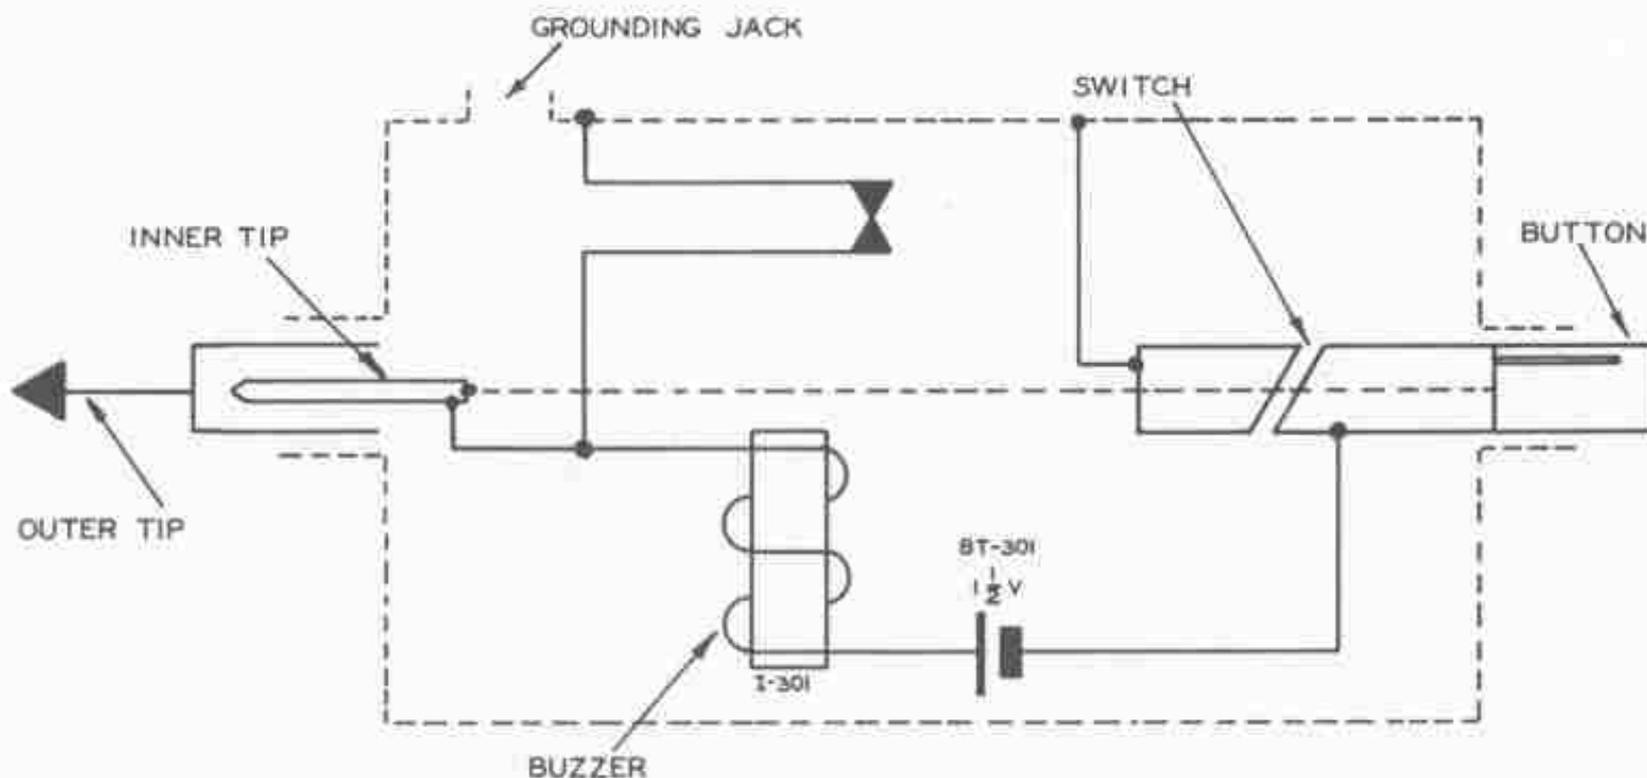

Figure 2-4. Simplified Schematic, Interference Generator
e. BASIC CIRCUIT OF INTERFERENCE GENERATOR SG-23/U. (See figure 2-4.) - This is an aperiodic, impulse buzzer type generator and is housed in a probe
case. The simplified schematic is shown in figure 2-4. When the switch is closed by pressing the button at the top of the probe, a modified square wave appears across the energizing coil. The harmonic content of this wave extends into the megacycle region. Varying the position of the inner tip with respect to the outer tip by means of the index at the end varies the coupling capacitance and allows some attenuation. For audio output, the inner and outer probes are placed in contact by setting the attenuator at position 1.